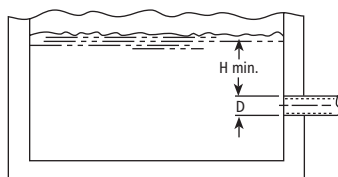

Figure 2
- Insure that the size and minimum liquid submergence, over the suction inlet, is sufficient to prevent air from entering suction through a suction vortex. See typical intake piping arrangement Figure 2 through 5.